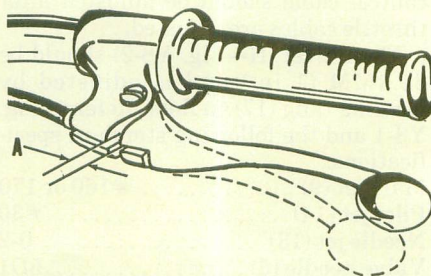
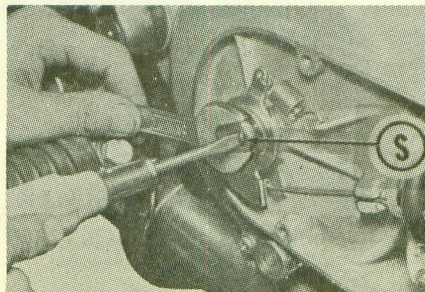

Fig. Y8-9—The clutch hand lever should have 2-3MM free play at (A).
Fig. Y8-10—The clutch adjusting screw (S) is located under the cover on right side of engine.
**CLUTCH CONTROLS.** The clutch hand lever should have 1/16-1/8 inch free play at (A—Fig. Y8-9). To adjust, remove the cover from right side of engine and loosen lock nut. Turn the adjusting screw (S—Fig. Y8-10) in until slight resistance is felt, then back screw out 1/4 turn and tighten lock nut. Turn the cable guide at hand lever end of cable until the hand lever free play (A—Fig. Y8-9) is correct.